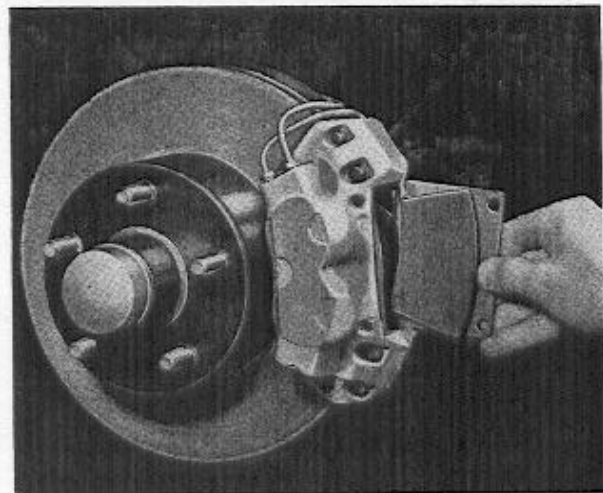

Fig. 39. Removing the pads.
3. Remove the hairpin-shaped locking clips and guide pins for the pads. Pull out the pads as shown in Fig. 39.